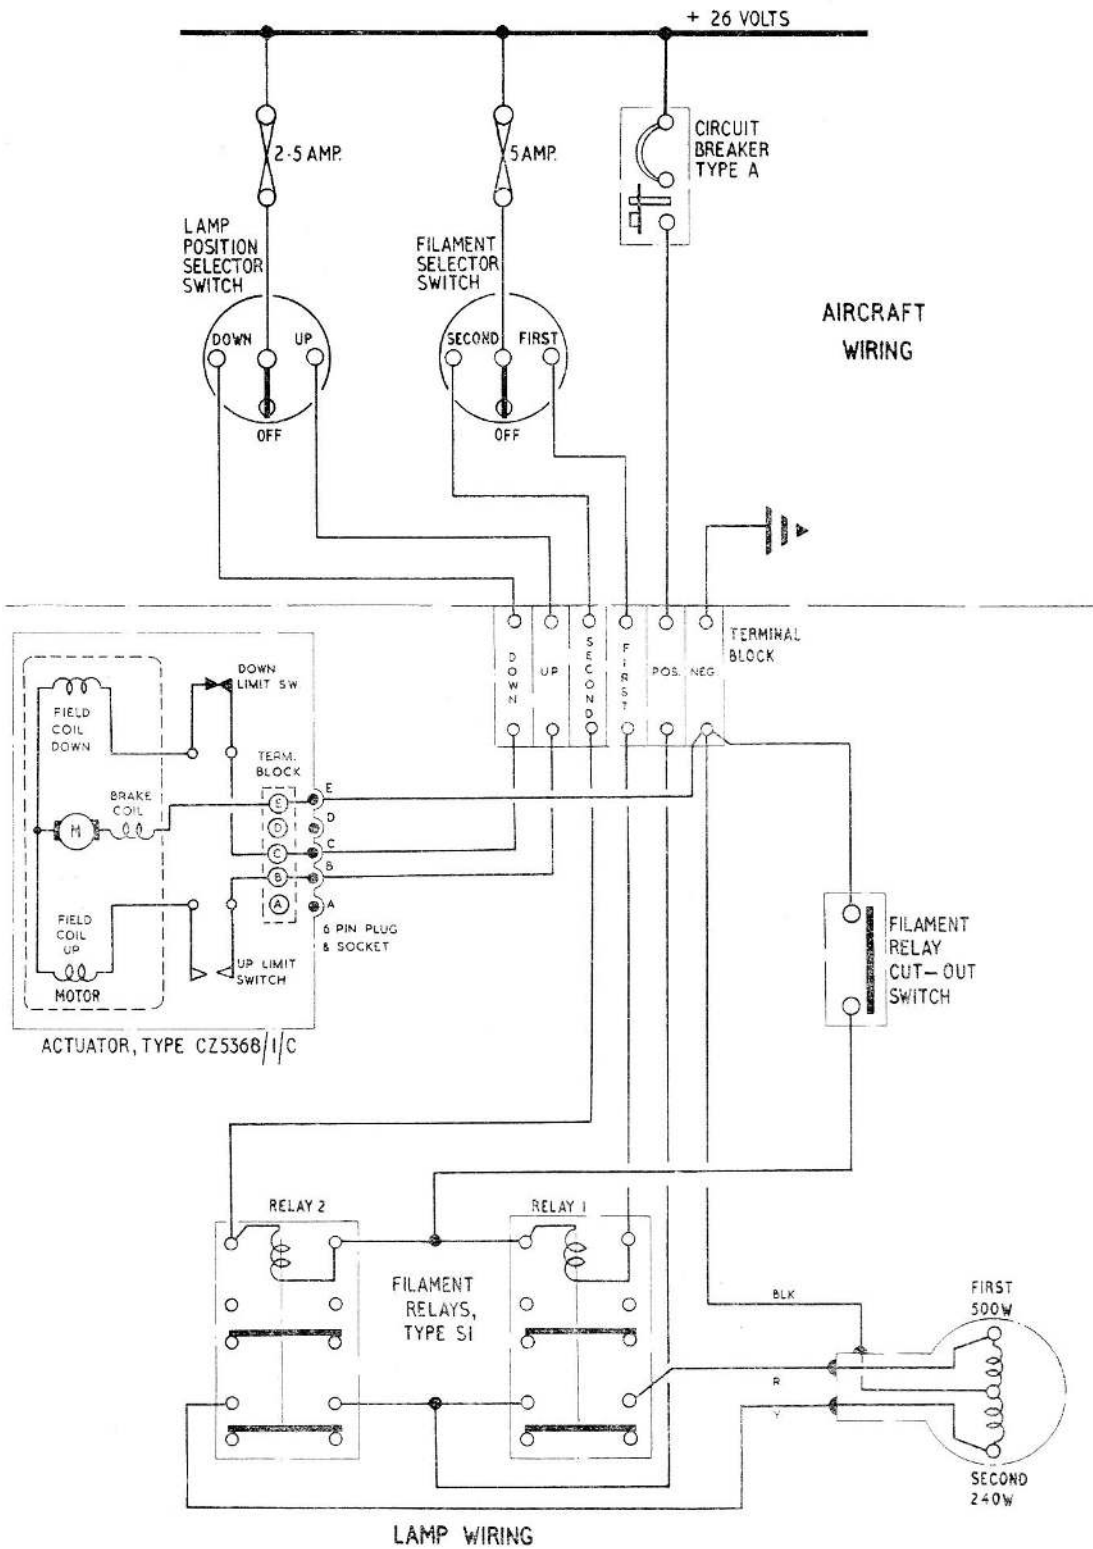

Fig. 4. Wiring diagram
**25.** With the lamp fully retracted and the selector switch in the OFF position, only the 'down' limit switch is made, and therefore with no current in circuit the motor armature is braked (*fig. 4*).